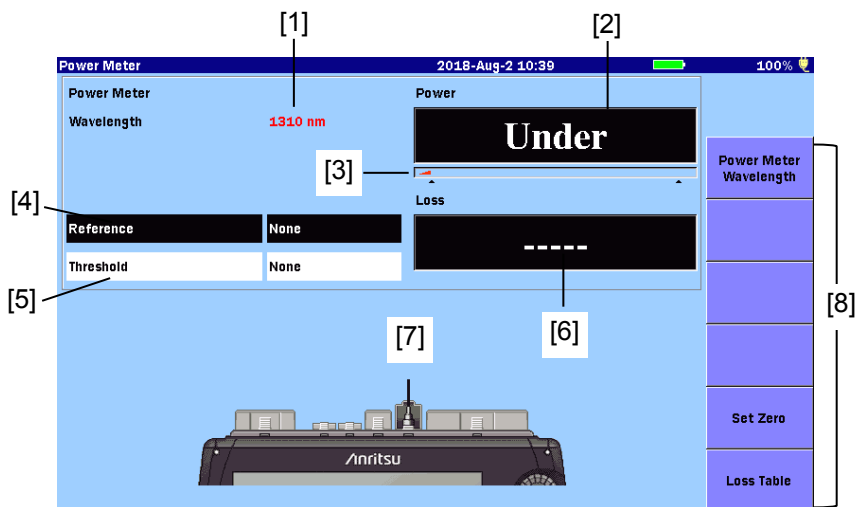

Figure 9.1.2-1 Power Meter Screen
2. Touch **Set Zero** on the Power Meter screen (Figure 9.1.2-1 “Power Meter Screen”). The following dialog box appears.
Displays the wavelength, modulation, reference value, and power level or loss set on the Power Meter Screen (Figure 9.1.2-1).
Touching this softkey goes back to the Power Meter screen (Figure 9.1.2-1 “Power Meter Screen”).